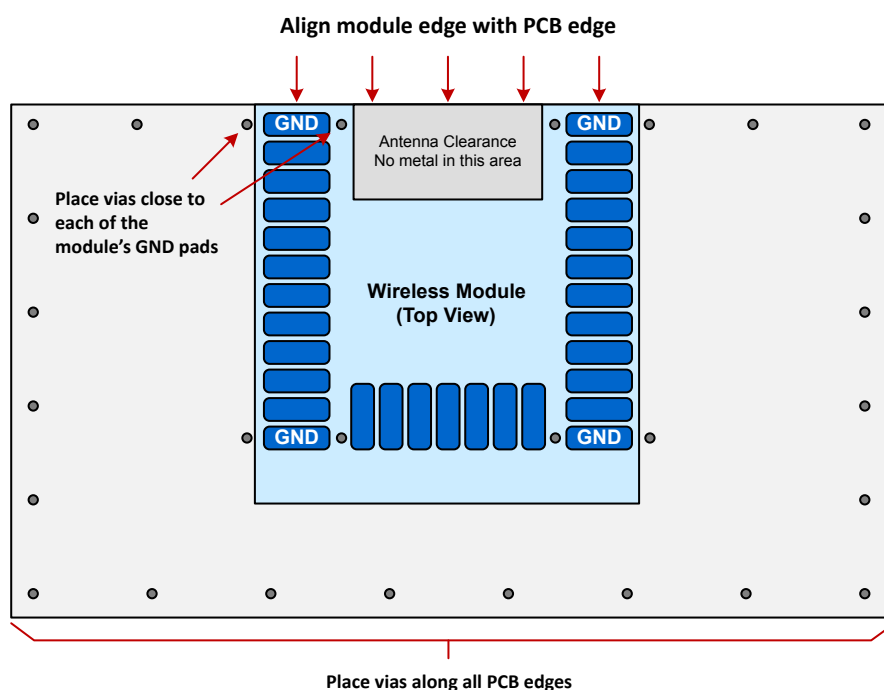

Figure 6.1. Recommended Application PCB Layout for MGM13P with Integrated Antenna
- Place the module at the edge of the PCB, as shown in Figure 6.1 Recommended Application PCB Layout for MGM13P with Integrated Antenna on page 57.